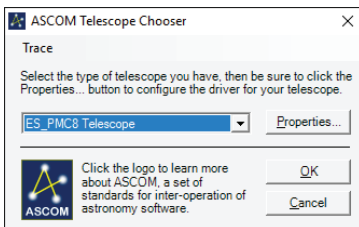

Figure 1. ASCOM Telescope Chooser window.
18. The ASCOM Chooser window will display. Find and select "ES\_PMC8.Telescope" in the drop-down list. (Figure 1.)